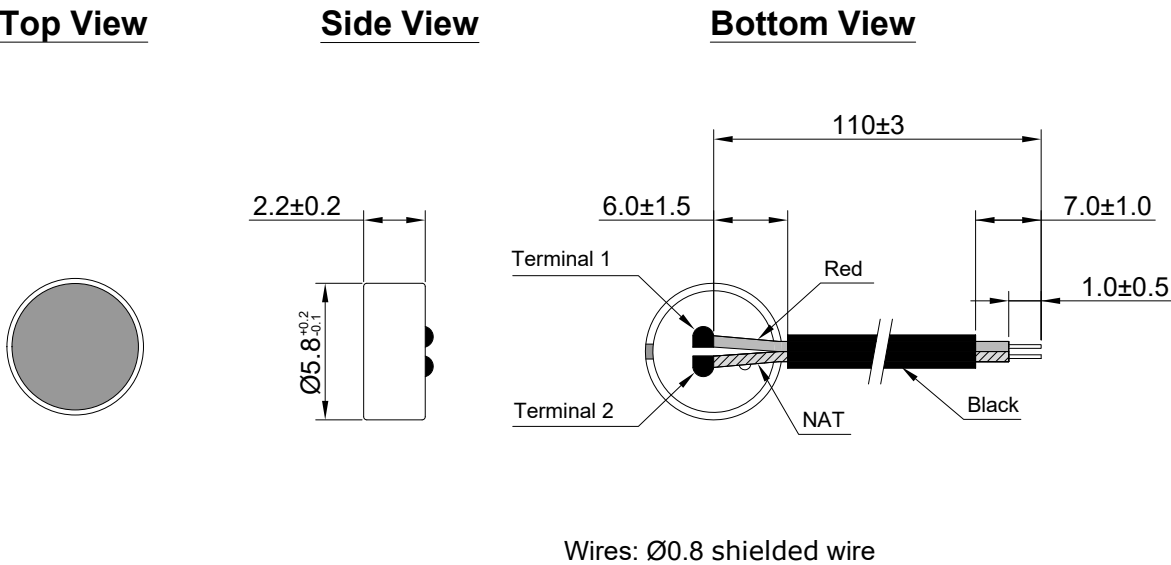

Figure 4. HBO0603Z-50/1211 Mechanical Layout
4.3.1. Layout and Dimension : See section 6, figure 4